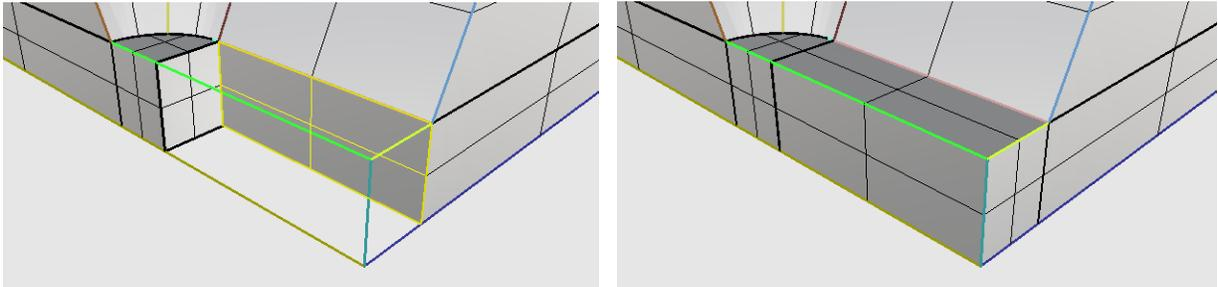

Figure 81: Building the last solid
- Left-click on **Extract Surface** and click on the **larger** of the two rectangular surfaces bordering the remaining **empty** space (Figure 81, left). Select **Solid|Extrude Surface|Along Curve** and click on any
of the smaller horizontal lines perpendicular and adjacent to the extracted surface, and delete the highlighted surface (Figure 81, right).